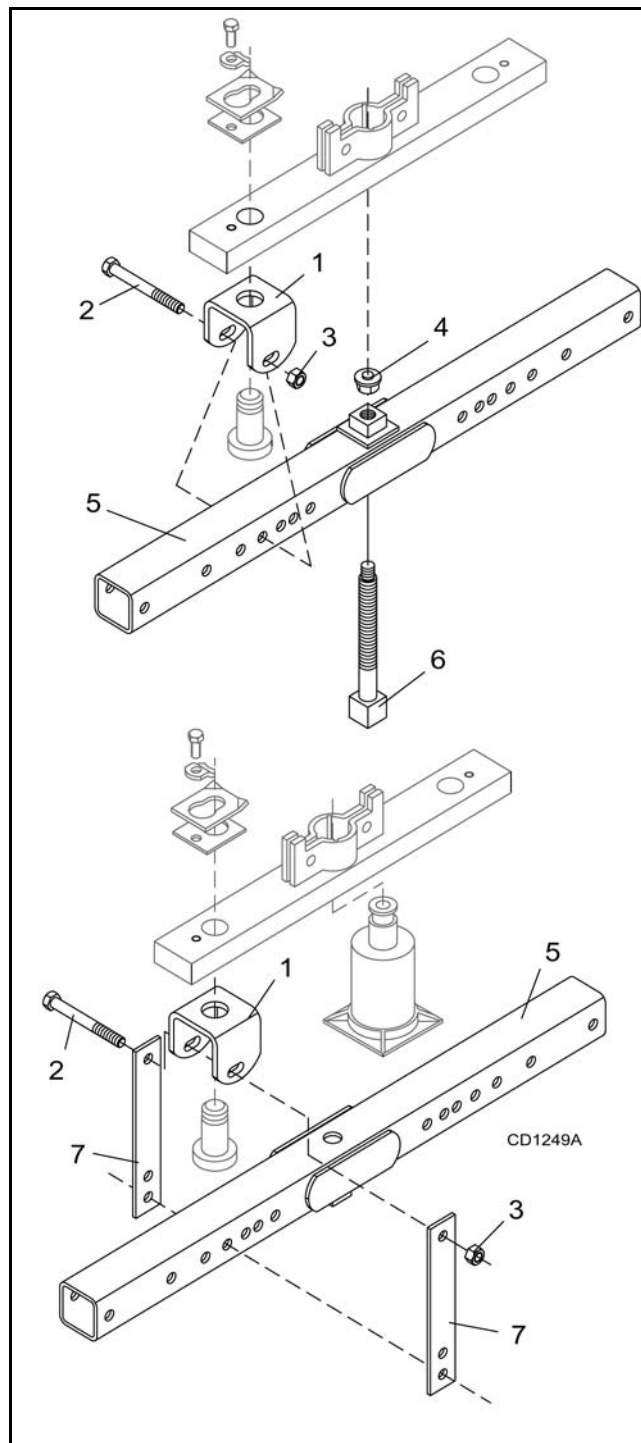

**Figure 17.** Blade Removal
2. Remove blades from crossbar as shown in Figure 17.